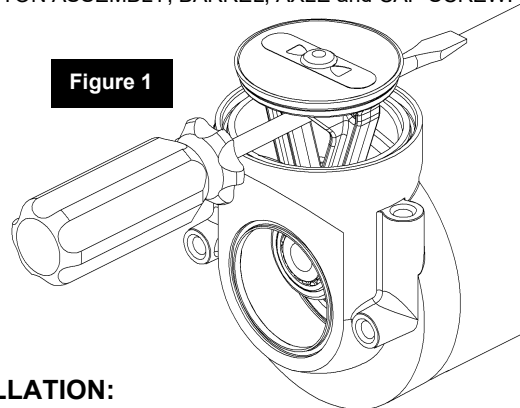

Figure 1
1. Remove compressor air filter cover (01), air filter (02) and hex head screws (03).
2. Remove the air filter base (04) and pay particular attention to the exhaust valve assembly (09-11), as these components are now loose. If this assembly falls out, refer to diagram opposite for reinstallation.
3. Remove cylinder head bolts (05) and carefully remove cylinder head (06) and the head O-ring (07). Discard the old O-ring.
4. Remove crankcase cover plate (12) and the cap screw (13) securing the piston and conrod assembly (14) to counterweight (15). Check between the piston/conrod assembly and the counterweight for a washer. If this washer is present, it must also be used in the rebuild.
5. Remove the barrel (08), piston and conrod as an assembly and discard.
6. Clean the cap screw (13) threads and apply Loctite 272 as per tube instructions.
10. Measure the deck height (see Fig. 1) with a depth micrometer, to ensure the distance of the piston crown to the top of the barrel is within specification. Deck height 0.5mm +0.2/-0.0 [0.020" +0.008/-0.000].
1. Unscrew the air filter assembly. Remove air filter flange bolts (13), air filter flange (12) and O-ring (14).
2. Remove head bolts (01) and head assembly (02). On CKMA models the bolts securing the manifold support bracket will also need to be removed.
3. Remove the BARREL (08). Place a screwdriver under the head of the piston as shown in Fig.1. This will stop the piston from moving through a full stroke.
4. Heat the CAP SCREW (11) using a micro torch to release the thread lock, unscrew it in an anti-clockwise direction, extract it along with the AXLE (10).
5. Lift the PISTON ASSEMBLY (09) from the compressor motor.